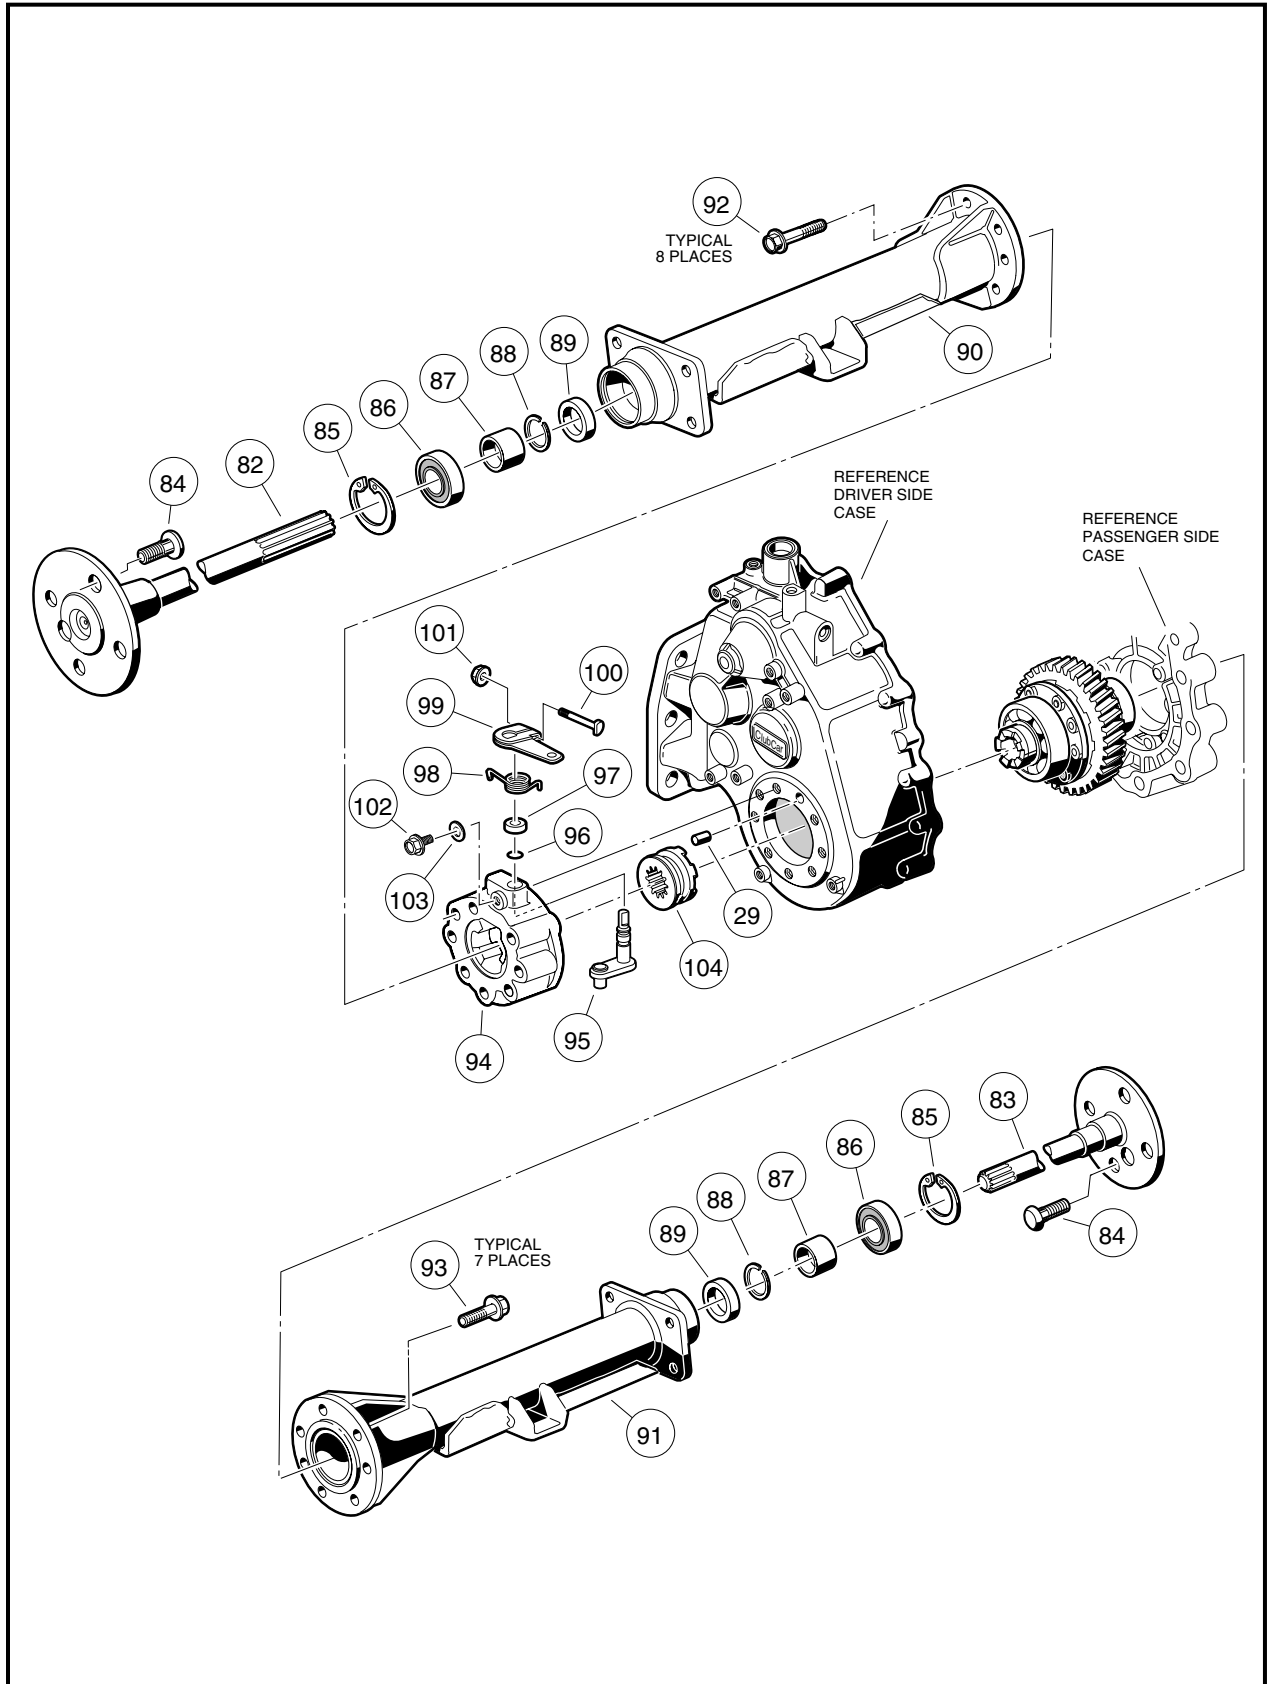

Figure 16b-9 Differential Gear Case/Axle Tubes
2. Press the bearing (86) and collar (87) off together of either axle (82 or 83) (**Figure 16b-9, Page 16b-7**). See also **Figure 16b-10, Page 16b-8**. See following **NOTE**.